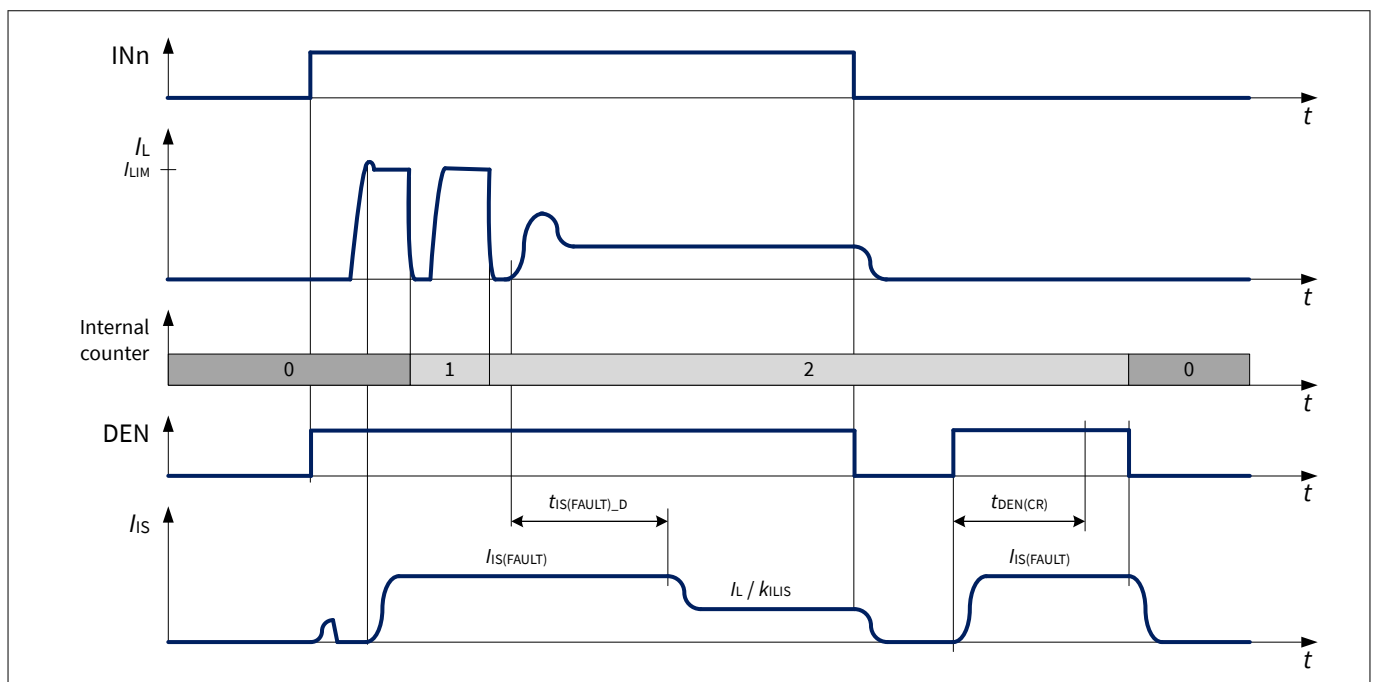

Figure 31 $I_{IS(FAULT)}$ at load switching
- If the channel is ON and the number of restarts is less than “ $n_{RESTART(CR),TYP}$ ”, the current $I_{IS(FAULT)}$ is provided for a time $t_{IS(FAULT)_D}$ after the channel is allowed to restart, and thereafter $I_{IS} = I_L / k_{ILIS}$ (as shown in Figure 31). During a restart cycle the current $I_{IS(FAULT)}$ is provided each time the channel diagnosis is checked.